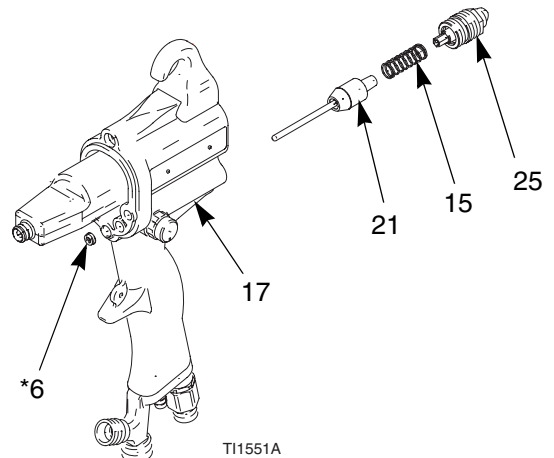

Fig. 18. Air Valve
3. Remove the fluid adjustment valve (25) from the handle (17). Remove the spring (15). See FIG. 18..